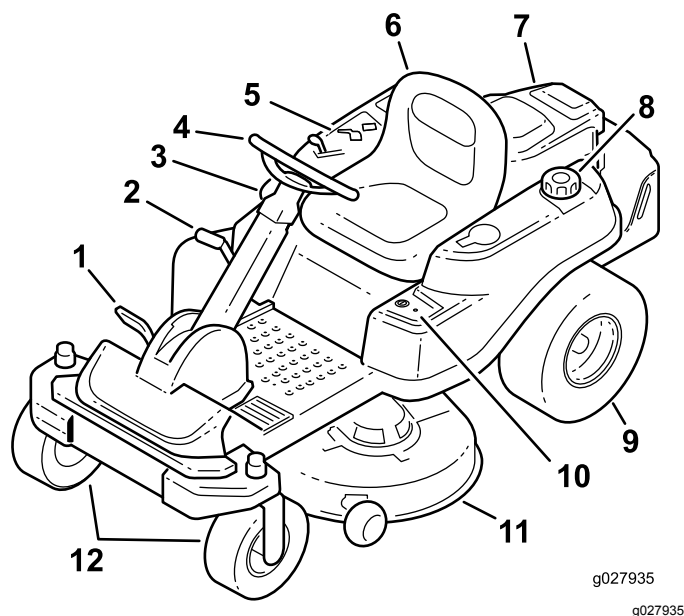
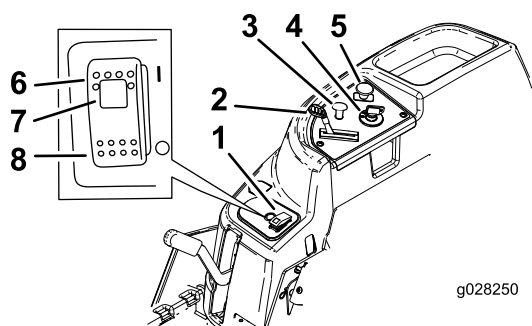

Figure 4
Figure 5
Become familiar with all controls in Figure 4 and Figure 5 before you start the engine and operate the machine.
The ignition switch has 3 positions—Off, Run and Start. The key will turn to Start and move back to Run upon release. Turning the key to the OFF position will stop the engine; however, always remove the key when leaving the machine to prevent someone from accidentally starting the engine (Figure 5).
Use the choke to start a cold engine. Pull the choke knob up to engage it. Push down on the choke knob to disengage it (Figure 5).
The throttle control is variable between FAST and SLOW. Moving the throttle lever forward will increase engine speed and moving the throttle lever to the rear will decrease the engine speed (Figure 5).
The blade-control switch, (PTO), engages and disengages power to the mower blades (Figure 5).
- Pressing the SmartPark™ switch to the ON position (Figure 5).